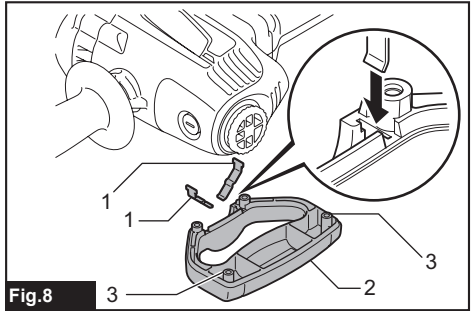

Fig.8
► **Fig.8:** 1. Leaf spring 2. Rear handle 3. Boss